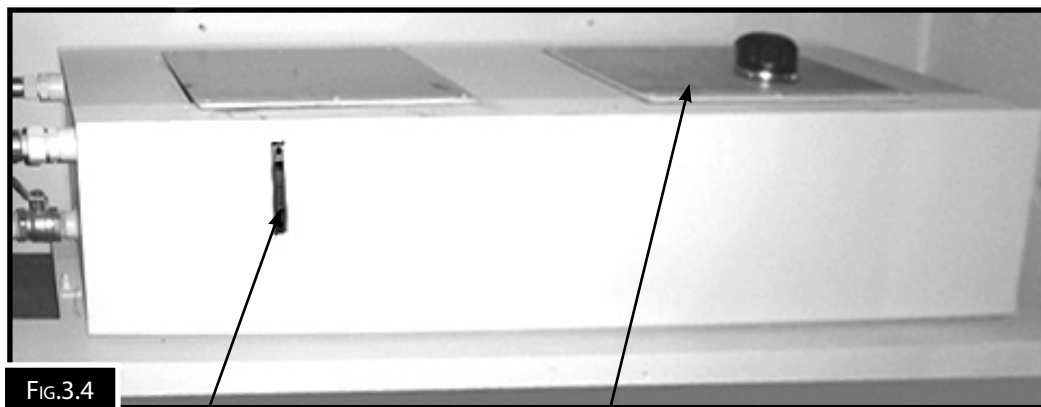

FIG.3.4
1. Remove the oil tank cover. (Fig.3.4)